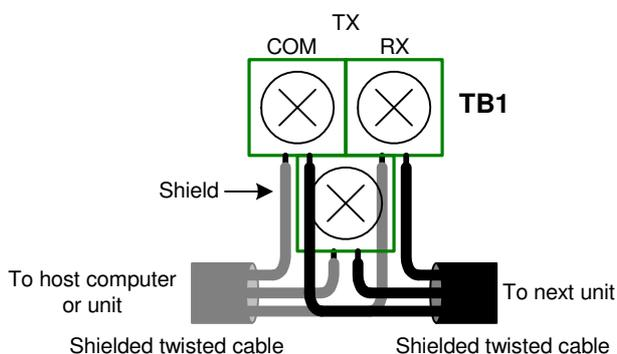

Fig. 11-3
- ✓ When using several slave units, set JP3 of last unit to 'LD' position to connect the terminating resistors as shown in the Fig. 11-3.